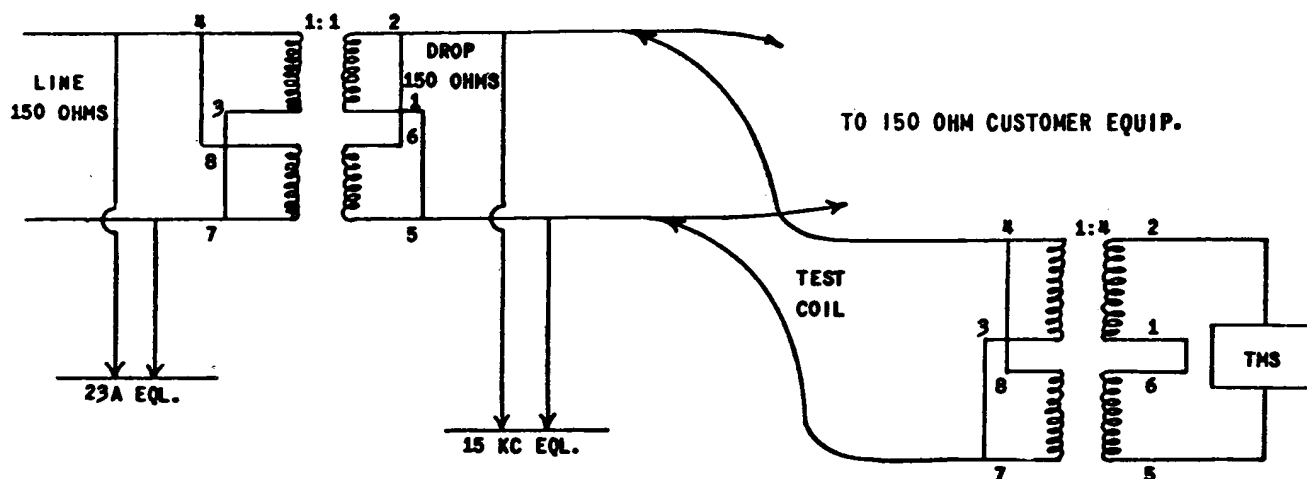

FIGURE 8
- (q) Where a 150-ohm customer equipment connection is required, strap the receiving repeating coil for 150-ohms (windings in parallel) on both line and drop sides. Use an additional repeating coil for making equalization tests wired 1:4 ratio to match the 600-ohm TMS as shown in Figure 8.